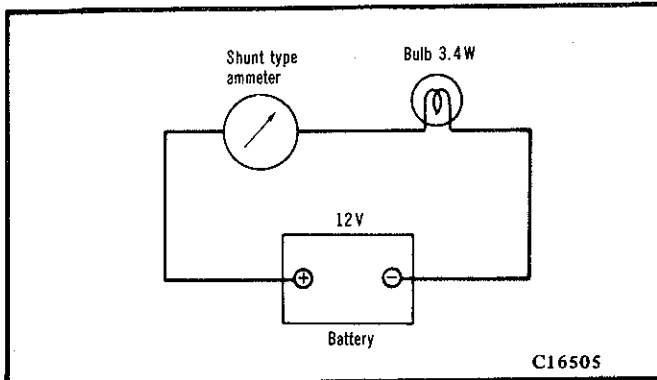

Fig. 19—Ammeter testing circuit
(1) Connect a 3,4 W bulb in series with the ammeter as shown in Fig. 19.
(2) The unit is satisfactory if approximately 6,0 amps is indicated in the meter.